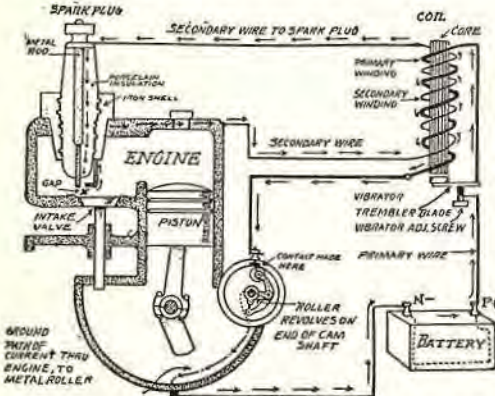
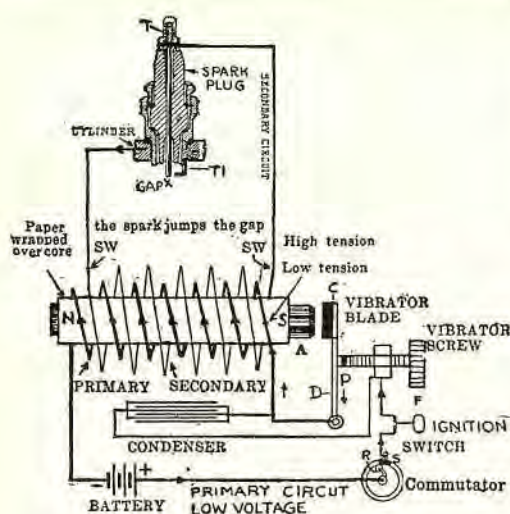

Fig. 1. Relation of the spark plug to the cylinder and to the commutator.
Fig. 2. A high-tension coil using a magnetic vibrator.
Where simple low-tension coils are used for the make-and-break system, coils of another kind, called "high-tension induction coils," are used to intensify or transform the current to a high voltage in order to force the current to jump across the open space or gap of a spark-plug point (Fig. 1). Therefore it is called the "jump spark" or "high tension" (meaning high pressure).
A spark plug (Fig. 1) is screwed into the cylinder of the engine, and when the piston is in the right position to receive a spark, a high-tension current of electricity is sent along the metal center rod (called the "electrode") of the spark plug and across the small air-gap (X) at the bottom and into the outer sleeve or iron shell of the spark plug which screws into the cylinder.
The original and early form of a high-tension coil ignition system consisted of the parts as shown in Fig. 2. This system is termed a "magnetic vibrator-coil" ignition system.
The magnetic vibrator blade (D) (Fig. 2), as previously stated, vibrates rapidly and opens and closes the circuit a great number of times, during the time the commutator roller is in contact with the segment (S).
Condenser: A condenser is always used with high-tension coils, by placing it across the interrupter points, to prevent a spark at the interrupter points, which would otherwise occur as shown in Fig. 11, page 184, if a condenser were not used. The condenser is not shown in Fig. 1, but is shown in Fig. 3. The condenser is fully explained farther on.
Note. In Fig. 1, the circuit is slightly different from that in Fig. 2. The principle is the same. Fig. 1 explains the relation of the spark plug to the cylinder and also how the current flows through the engine frame. The connections from the battery to the coil, etc., could be as in Fig. 1 or 2. The connections shown in Fig. 2, however, are in conformity with the general practice.
Note that, as shown in Fig. 2, the (-) terminal of the battery is usually grounded. The secondary and primary windings are also usually grounded together. For instance, if the left ends of both primary and secondary winding were connected together in the coil and then grounded, and if the (-) terminal of the battery was grounded, the circuit would be a "grounded" system instead of an "insulated" system, as shown in Fig. 2.